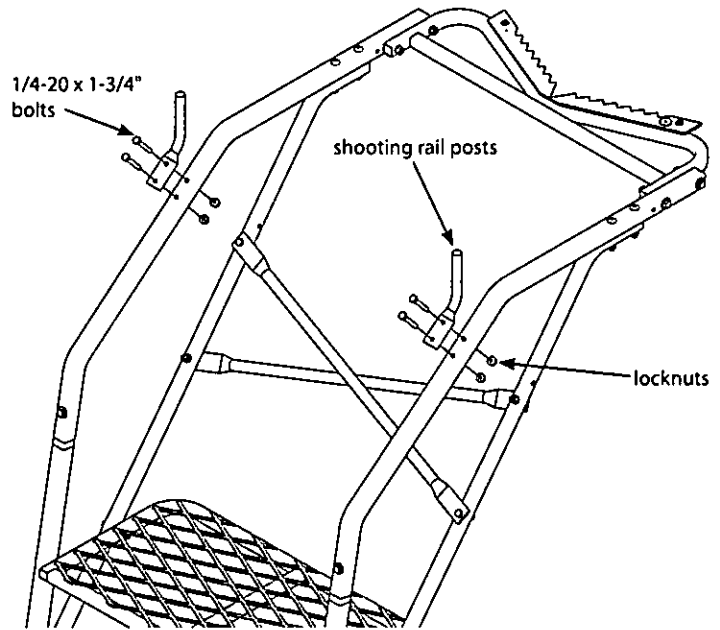

Figure 5
7. Attach the shooting rail posts (10393) to the main side rails using (4) provided 1/4-20 x 1-3/4" bolts and locknuts. **SEE FIGURE 5.**